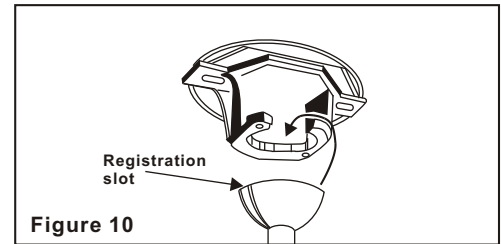

Figure 10
Step 6. Place rubber cover onto the hanger ball . Now lift motor assembly into position and place hanger ball into hanger bracket. Rotate until the check groove has dropped into the registration slot and seats firmly. (Fig. 10) Rod should not rotate if this is done correctly.